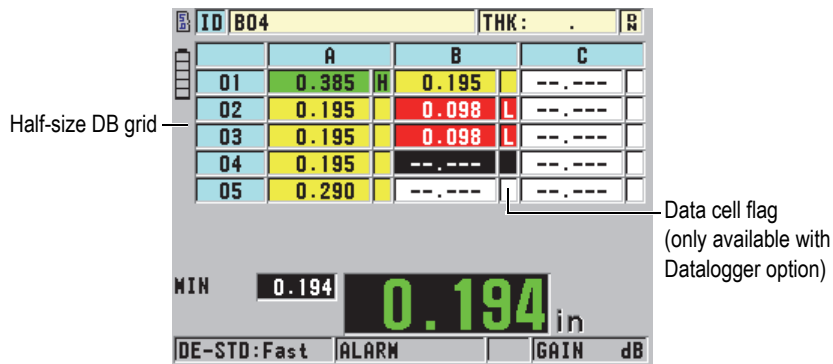

Figure 9-7 Example of the half-size DB grid
The database grid (DB grid) is a table representation of 2-D data. This representation enables you to move freely in any direction on a grid, rather than follow a preset list of IDs. Instead of automatically incrementing to the next ID location, you can use the arrow keys to move to a location that is more convenient. You can simultaneously display the A-scan, the DB grid, and the thickness reading (see Figure 9-7 on page 159). You can configure the grid cells to show a data cell flag and a background color corresponding to the range in which their thickness reading falls.
- Set **DATA CELL FLAG** to one of the available options in order to display a single data flag with each data cell in the DB grid. The data cell flag is a letter that appears in a small box to the right of the thickness value in the data cell (see Figure 9-7 on page 159). The available options are: